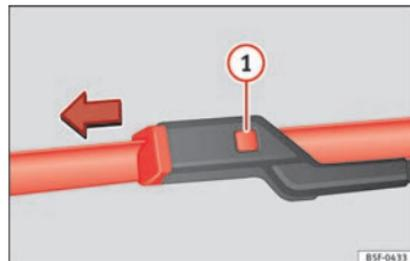

Fig. 79 Changing the front wiper blades
- Press and hold release button » » Fig. 79 ❶ and pull gently on the wiper blade in the direction of the arrow.